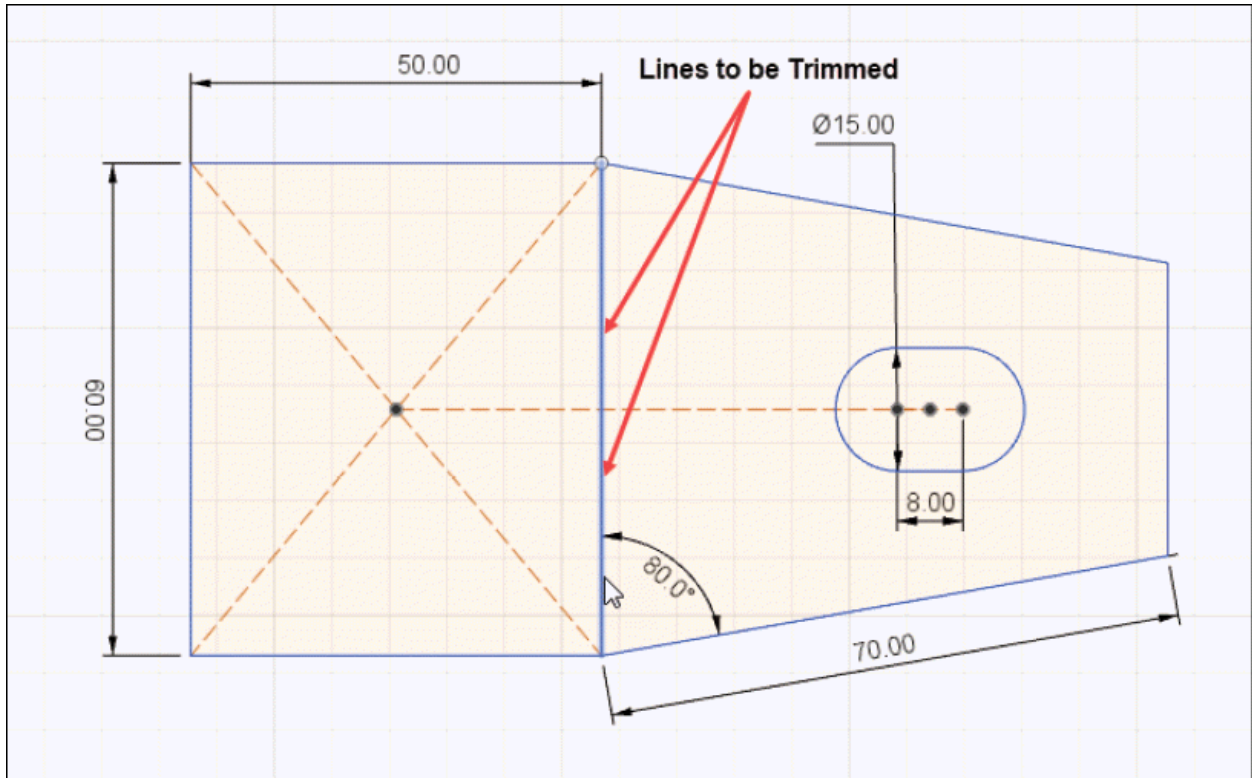

Figure-15. Lines To Be Trimmed
- Press **T** from keyboard or click on the **Trim** tool from **MODIFY** drop-down in **Toolbar** to activate trimming tool. Select the inner lines of rectangle to remove them; refer to Figure-15.